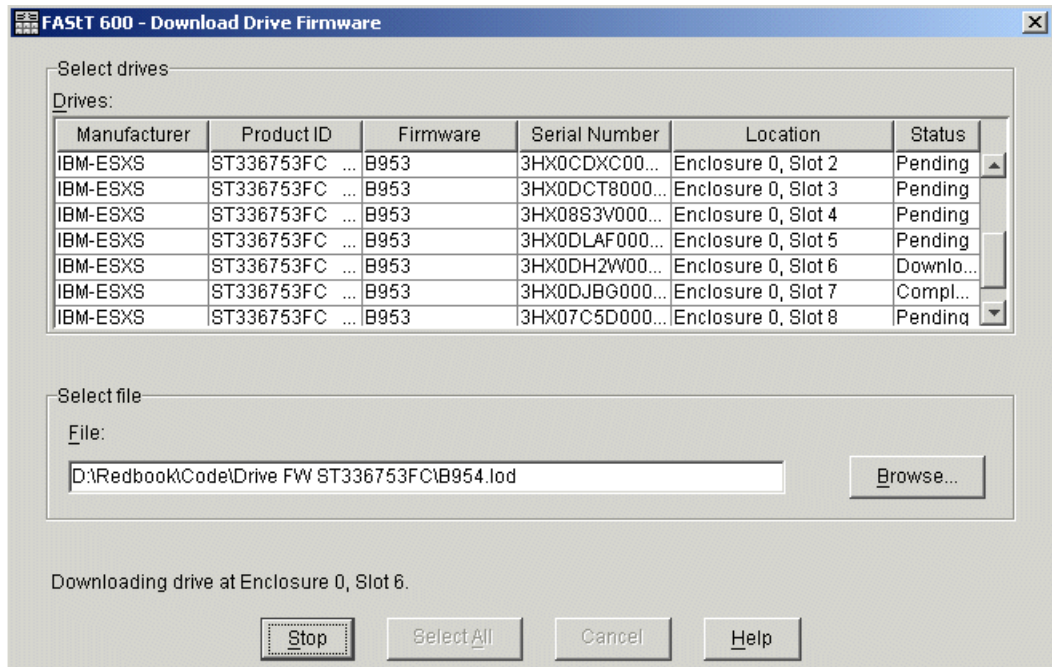

Figure 11-13 Progress of hard drive firmware update
- As the firmware is updated, you will see a screen similar to Figure 11-13 on page 343 indicating the status of the update.